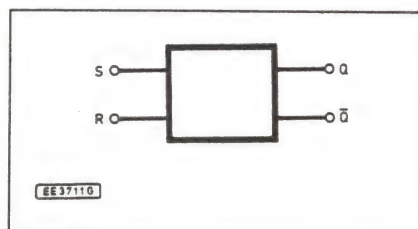

Fig. 3. Symbol for S-R bistable.
Q and $\bar{Q}$ normally have opposite logic states – that is, if one of them is Logic 0, the other will be Logic 1. In the mechanical analogy, this is like saying that when the marble is in state A (Logic 1) it is *not* in state B (Logic 0). The bistable has two inputs – one called Set (S) and the other Reset (R). These are used to change the output states as required. Fig. 3 shows the symbol for an S-R bistable.